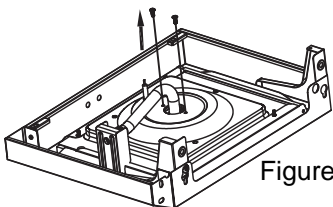

Figure 1
- Install the Cylinder Fixture Support (21) onto the Cart Bottom Panel (12) and secure with two screws (A) as shown in Figure 1.
- Remove the trivet and side burner out as in Figure 1 and 2. Put them aside.